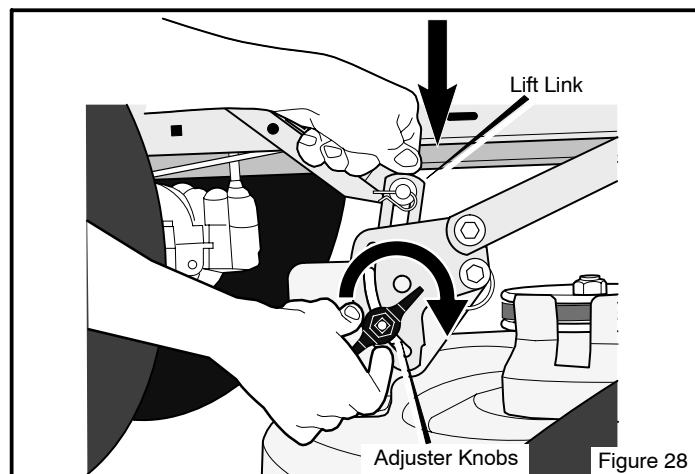

Figure 28
6. Loosen the left and right **adjuster knobs** (Figure 28). Push down on each side of the mower housing. Make sure both sides of the mower housing are setting on a flat surface. Also, make sure the lift links are loose and can easily move up or down.
7. Push down on the **lift links** and tighten the left and right **adjuster knobs** (Figure 28). Make sure the **adjuster knobs** are tight. If necessary, use a wrench to tighten the **adjuster knobs**. Tighten to a torque of 10 foot pounds (13,5 N-m).